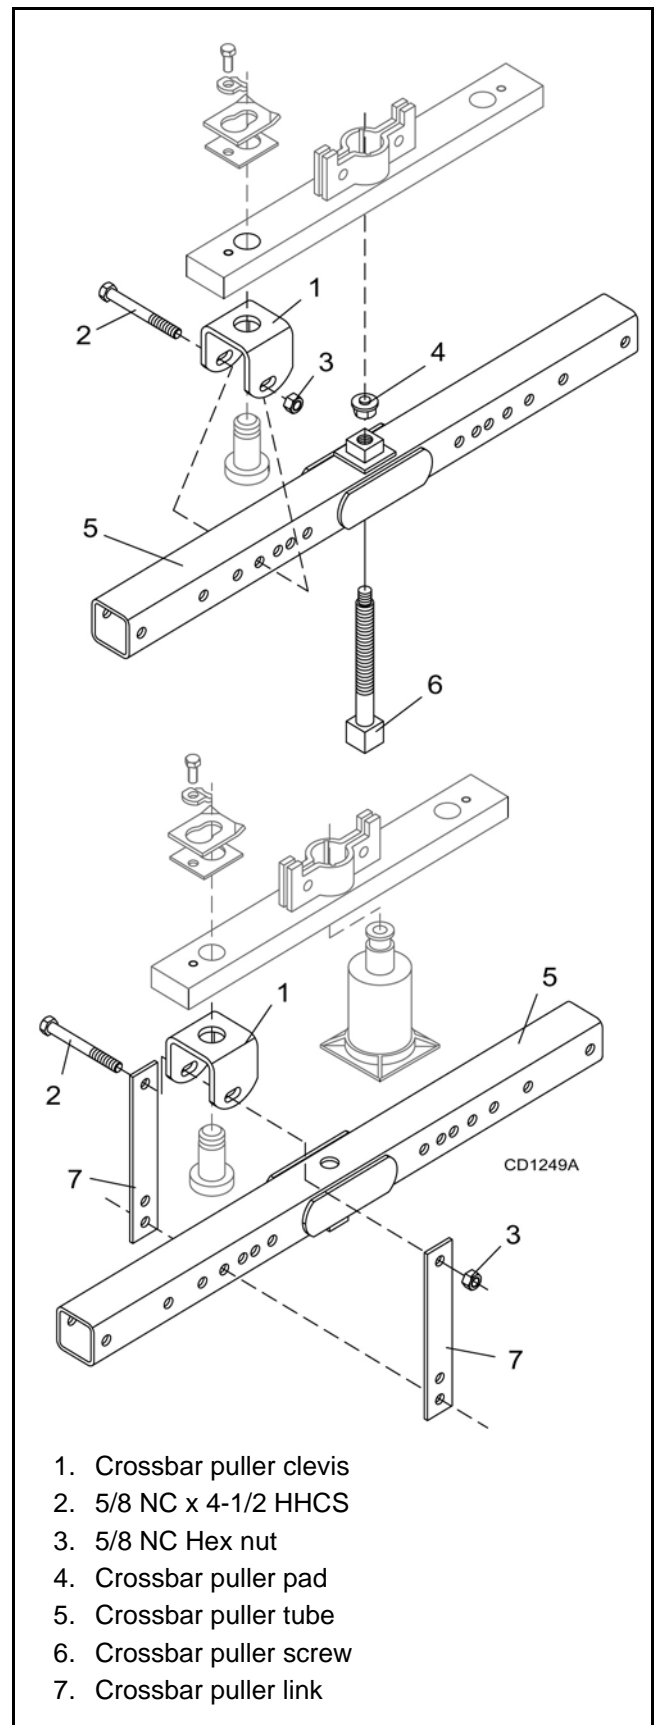

Figure 16. Crossbar Removal
NOTE: You will need to use either the puller screw (Item 6, Figure 16) or a small hydraulic jack to remove the crossbar.
4. Refer to Figure 16. Attach a clevis (1) to each end of crossbar, using blade pins, spacers, keyhole plates, and blade pin clips.
5. Position tube assembly (5) with threaded nut (4) toward crossbar for puller screw removal or down for hydraulic jack removal.
6. For removal with puller screw, attach tube (5) to each clevis with bolts (2) and nuts (3). Place pad (4) in nut and thread puller screw (6) into nut from bottom. Tighten until pad is solid against gearbox shaft. For best results, strike head of puller screw with a hammer while tightening with a wrench.
7. For removal with a jack, attach tube to each clevis with puller links (7), bolts (2), and nuts (3). Place jack on tube with end of jack pressing against gearbox shaft. Slowly apply force with jack.